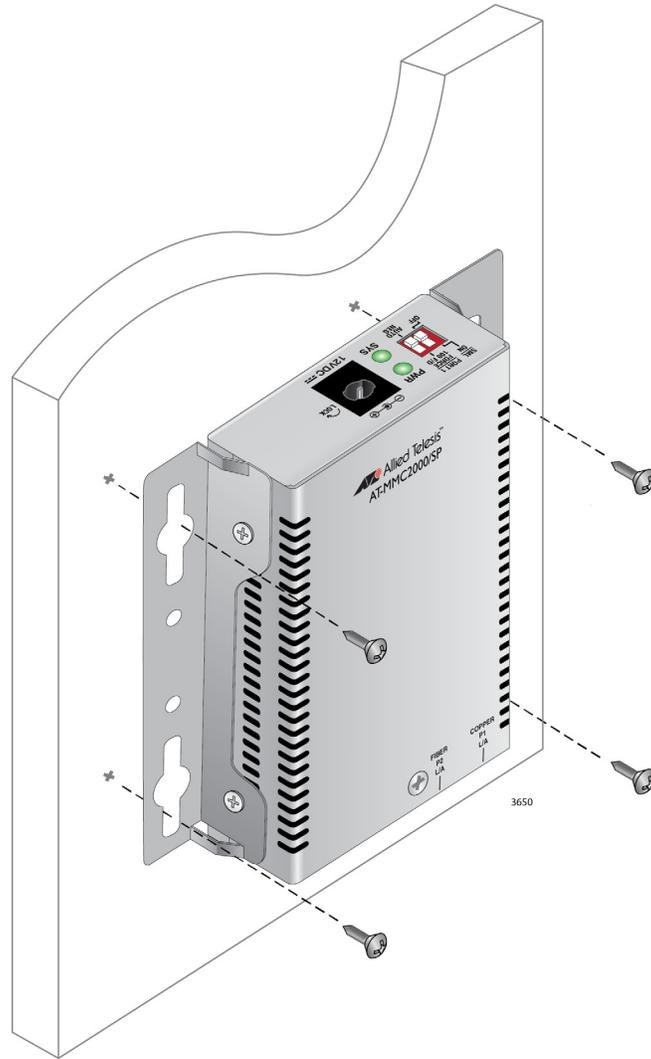

Figure 33. Securing the Media Converter to the Wall
10. Secure the media converter unit to the wall using four wall-mounting screws. See Figure 33 on page 66.